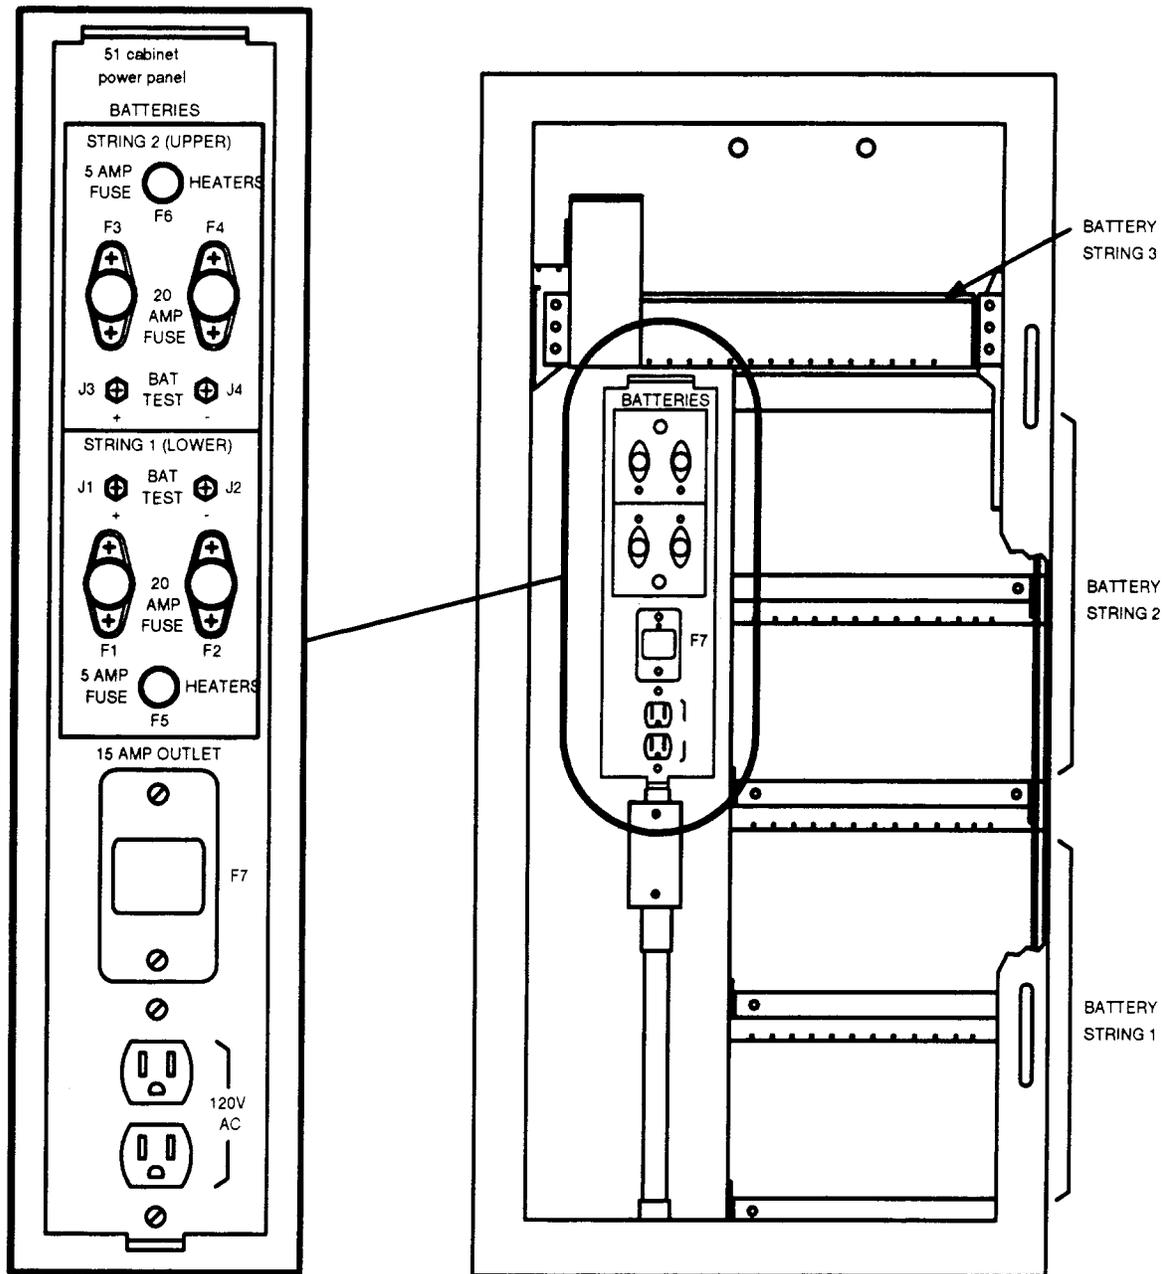

Figure 1 — Battery Section of 51A Cabinet Showing Power Panel
23. Install good 25 amp fuses (Buss ABC or equivalent) into **+BAT** and **-BAT** fuse holders of all battery shelves equipped with batteries (Figure 1).
24. If required, install good 5 amp fuse into **HTR** (heater) fuse holder(s) of all battery shelves equipped with batteries (Figure 1).
3. In battery section of cabinet at power panel (Figure 1), refer to Table A and remove the fuses associated with battery string(s) being installed.